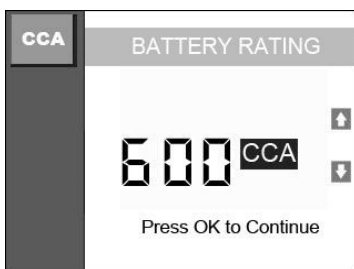

Figure 9.5
7. For example, select CCA in the list and press **OK** button to continue. Then the screen shows as Figure 9.5. Press the **UP/DOWN** scroll button to increase or decrease rating units by 20 units and then press **OK** button to confirm.
| GOOD BATTERY | The battery is normal and ready for service. (Figure 9.5) |